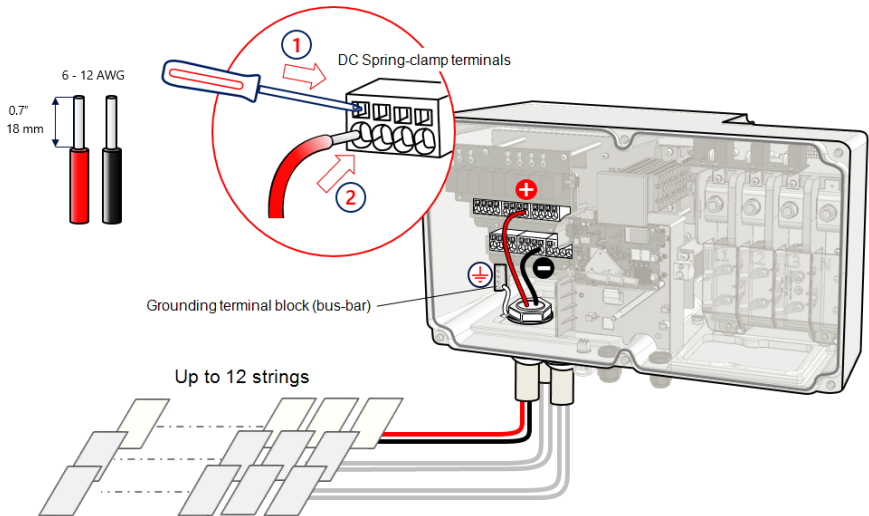

Figure 22: Connecting PV strings to a Synergy Manager with spring-clamp DC terminals
- c. Insert the wire into the top opening (see *Figure 22*).